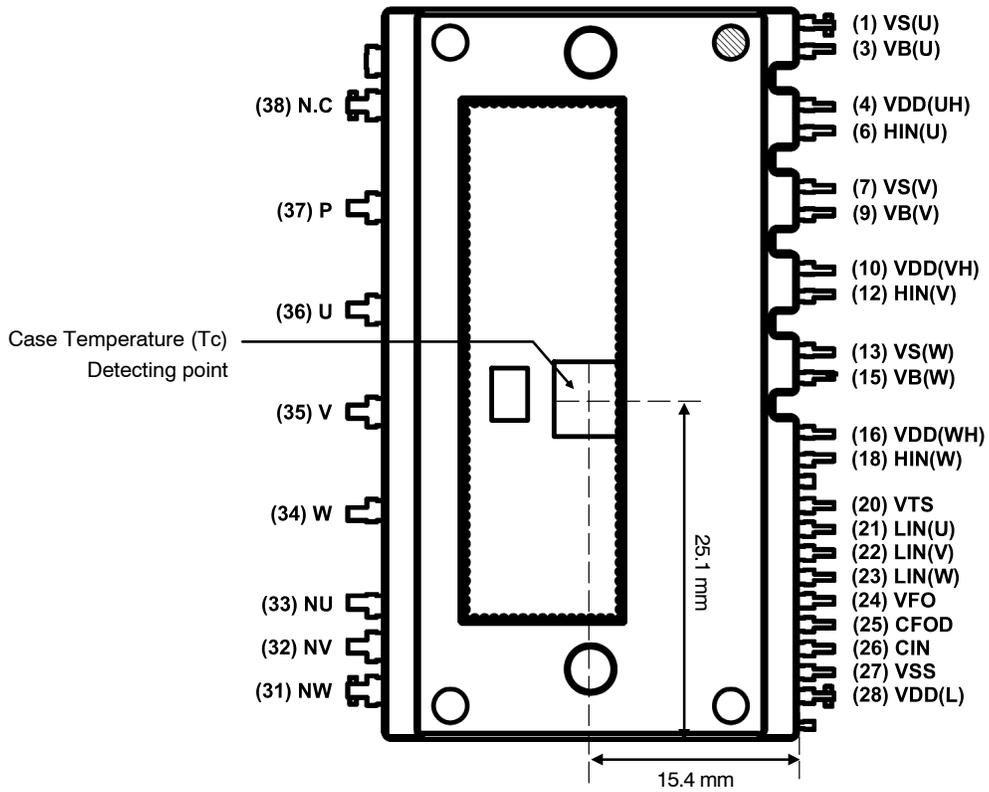

Figure 8. Case Temperature (Tc) Detecting Point
- For the measurement point of case temperature (T_c), please refer to Figure 8.